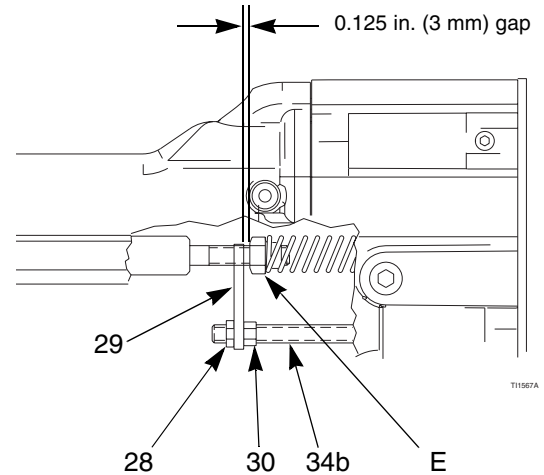

Fig. 27. Actuator Arm Adjustment
2. Position the parts so there is a 0.125 in. (3 mm) gap between the actuator arm (29) and the fluid packing rod nut (E), which allows the atomizing air to actuate before the fluid. See FIGURE 27.
3. Tighten the adjustment nut (30) against the actuator arm (29). Check that the 0.125 in. (3 mm) gap has been maintained. In addition, there should be 3-4 mm of electrode needle travel when the gun is triggered. Adjust the jam nut position to obtain these dimensions.
5. Install the gun shroud (2) and air cap (3), page 34.